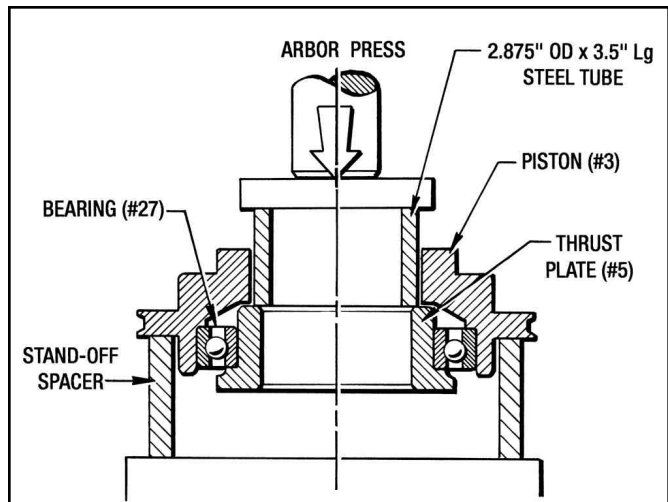

Figure 7.3 - Piston Disassembly
(See Figures 7.3 and 10.1)
1. Press the Thrust Plate (#5) and the Bearing (#27) out of the Piston (#3) with an arbor press as shown in Figure 7.3.